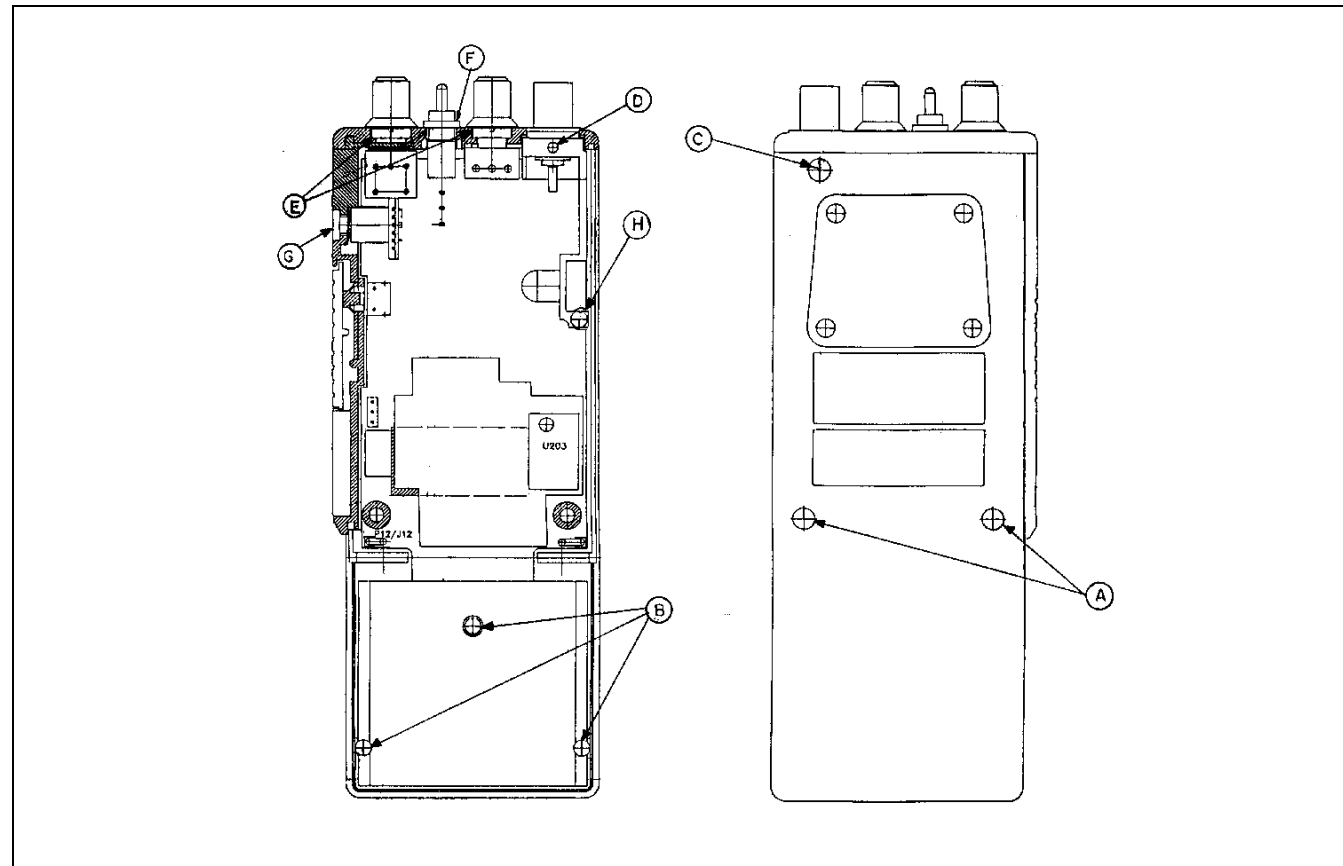

Figure 2 - Disassembly
2. Remove the two screws at (A) (See Figure 2).
5. To gain access to the microprocessor, remove the three screws at (B) and lift up the cover.
1. Remove the screw at (C) using a No. 7 TORX screwdriver (See Figure 2).
2. Remove the four M2 pan head screws, 3 at (B) and 1 at (H), on the component side of the T/R Board using a No. 7 TORX screwdriver.